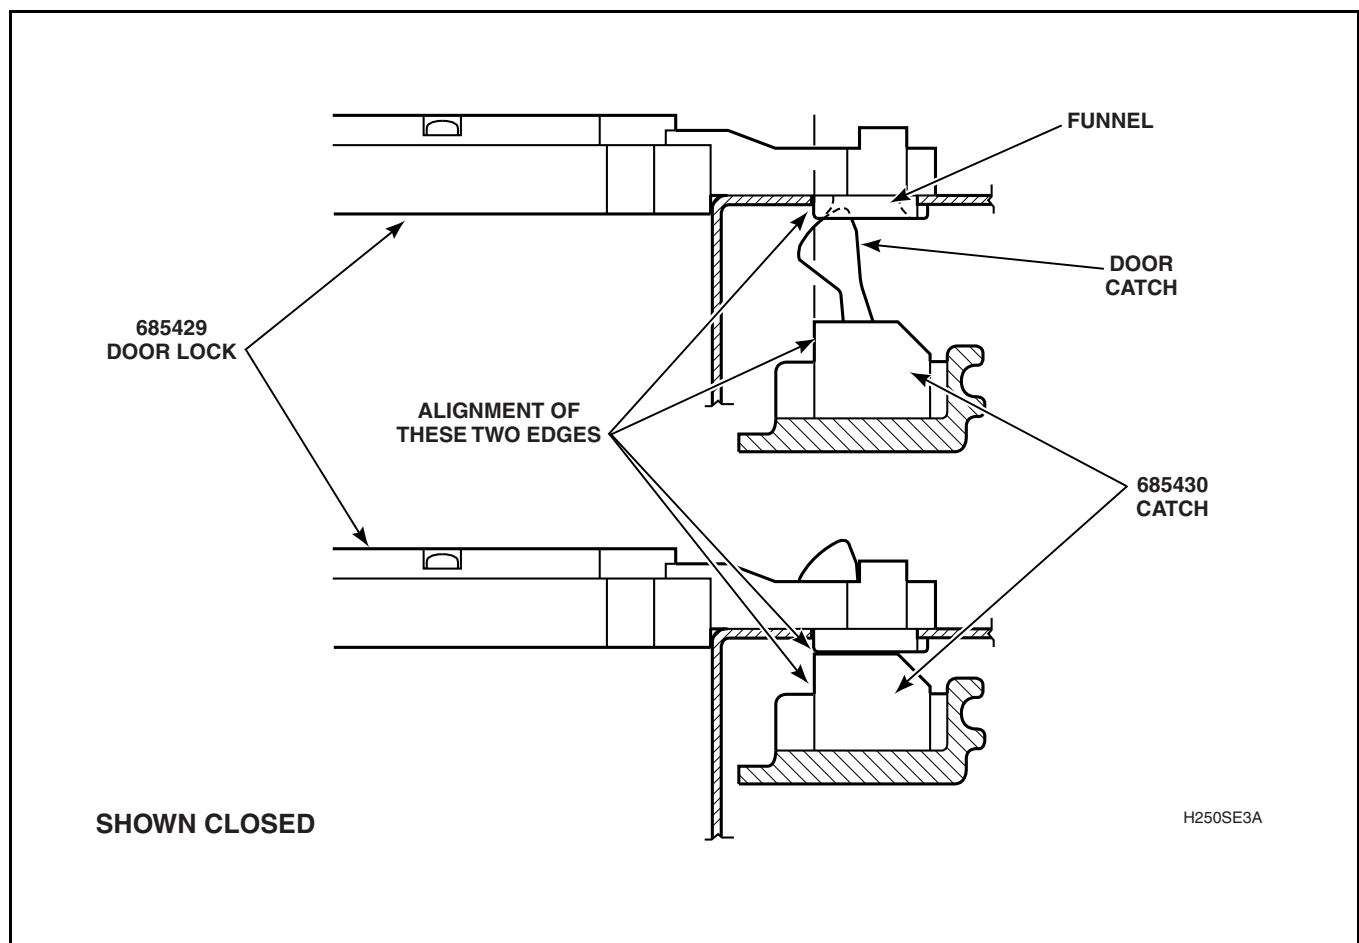

Figure 26
- Adjust door catch so the outside edge is aligned with the edge of the latch. Refer to *Figure 26*.
- Visually check that the door catch properly engages the funnel of the door latch/switch assembly. Refer to *Figure 26*.